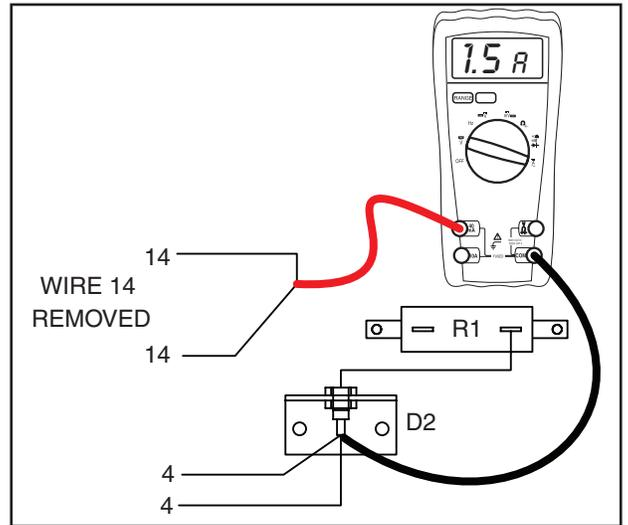

Figure 6-12. – Measuring Amp Draw
17. Connect the positive meter test lead to Wire 14. Connect the negative test lead to Wire 4 at Diode D1. See Figure 6-12.